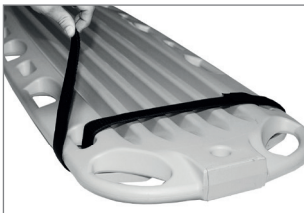

Figure 1a
1. Attach the base plate to the spinal board with the help of the broad restraint strap (Figure 1a,b).